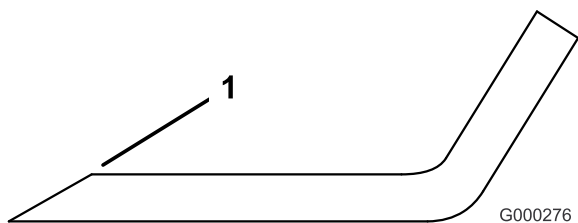

Figure 52
- Use a file to sharpen the cutting edge at both ends of the blade (Figure 52). Maintain the original angle. The blade retains its balance if the same amount of material is removed from both cutting edges.